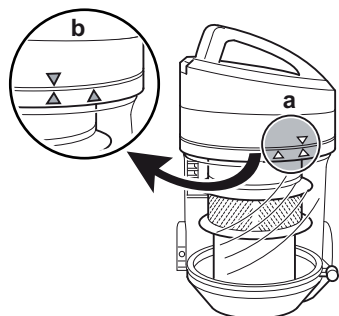

Fig. 25
6. Put the cyclone unit back onto the dust container so that the placement marks are opposite each other as shown. (Fig. 25/a).
7. Join the two parts by turning clockwise (Fig. 25/arrow). The placement mark will change position as shown (Fig. 25/a→b).